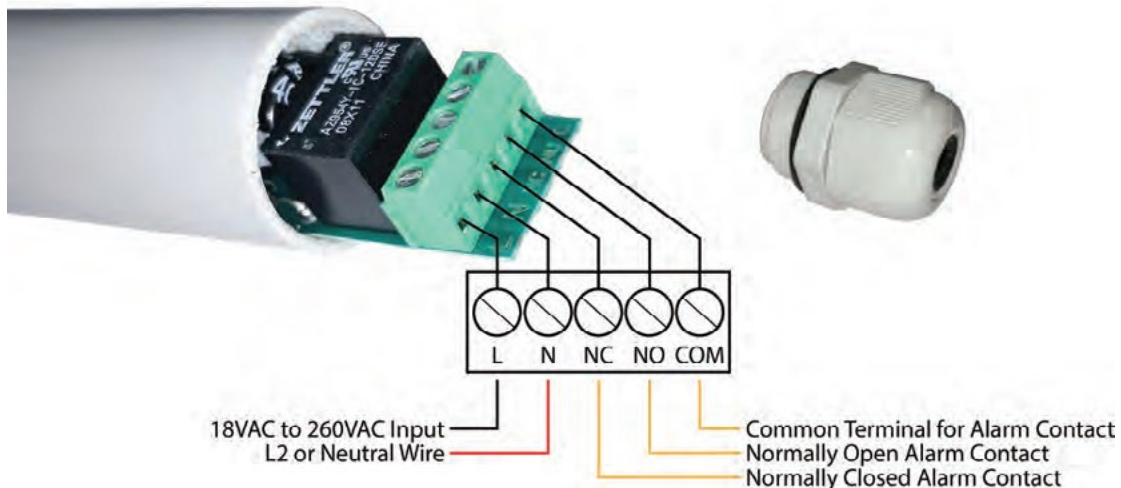

Figure 2
1. Remove cable gland. Remove foam filler, but don't discard. See FIGURE 2.
4. Connect power to the appropriate power input pins of the terminal block. See FIGURE 2. The neutral must be landed on the N terminal. If 240V, L2 is connected to N terminal.
The detector is supplied with an alarm relay that can be wired into the building management system. The internal relay has been provided with both normally open (NO) and normally closed (NC) connections along with the common (COM) terminal. See FIGURE 2 for connection details.
2. See FIGURE 2 for connections to GPS-iDETECT-P.